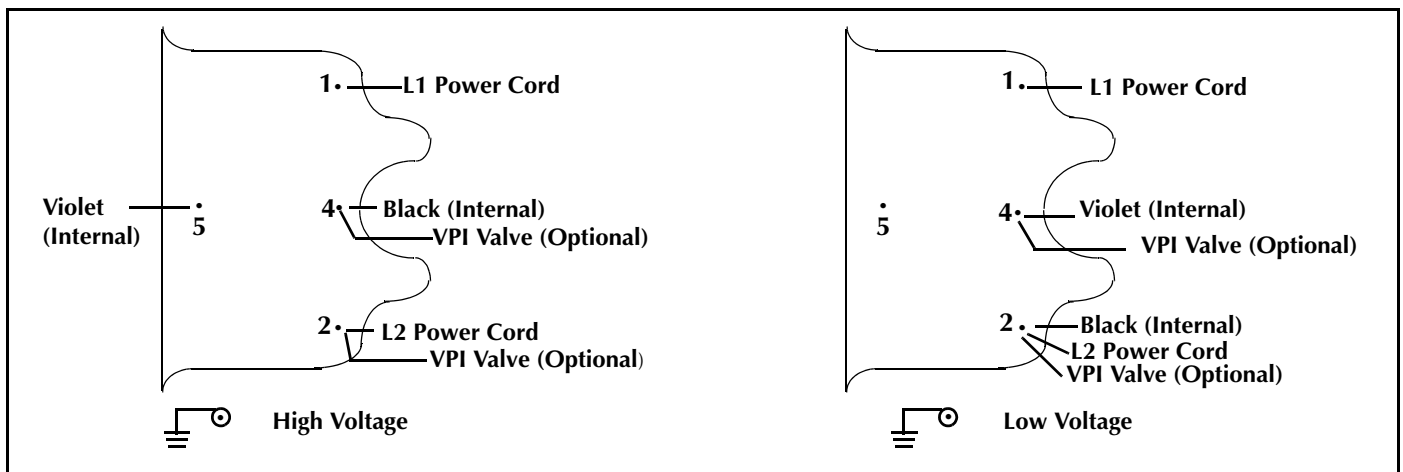

Figure 4 Single Phase Motor Electrical Connections
The pump can be configured for low voltage, 100 VAC to 115 VAC, or for high voltage, 200 VAC to 230 VAC. As supplied from the factory, the pump is configured for low voltage. Figure 4 shows the electrical connections for a single phase motor.
3. Refer to Figure 4 to connect the motor to match your supply voltage.
4. Wire L1 and L2 per Figure 4 using right angle flag connectors or ring connectors.
Using the data in Table 3, verify that the VPI Valve chosen is compatible with the TriScroll supply voltage and frequency. Then, locate the proper wiring diagram to use (Figure 4 on page 7).
2. Connect the VPI Valve solenoid wire leads to the pump motor as shown in Figure 4.